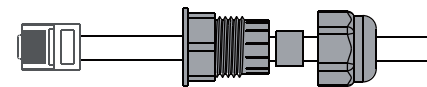

Figure 4.6-4 Remotely close the cable connection
**Step 3-2 For Remote Shutdown.** Run the cable through the steel plate, Then wire from pins 5 and 6. Table 4.6-1 describes the 6-pin port definition, Wiring is shown in Figure 4.6-4.